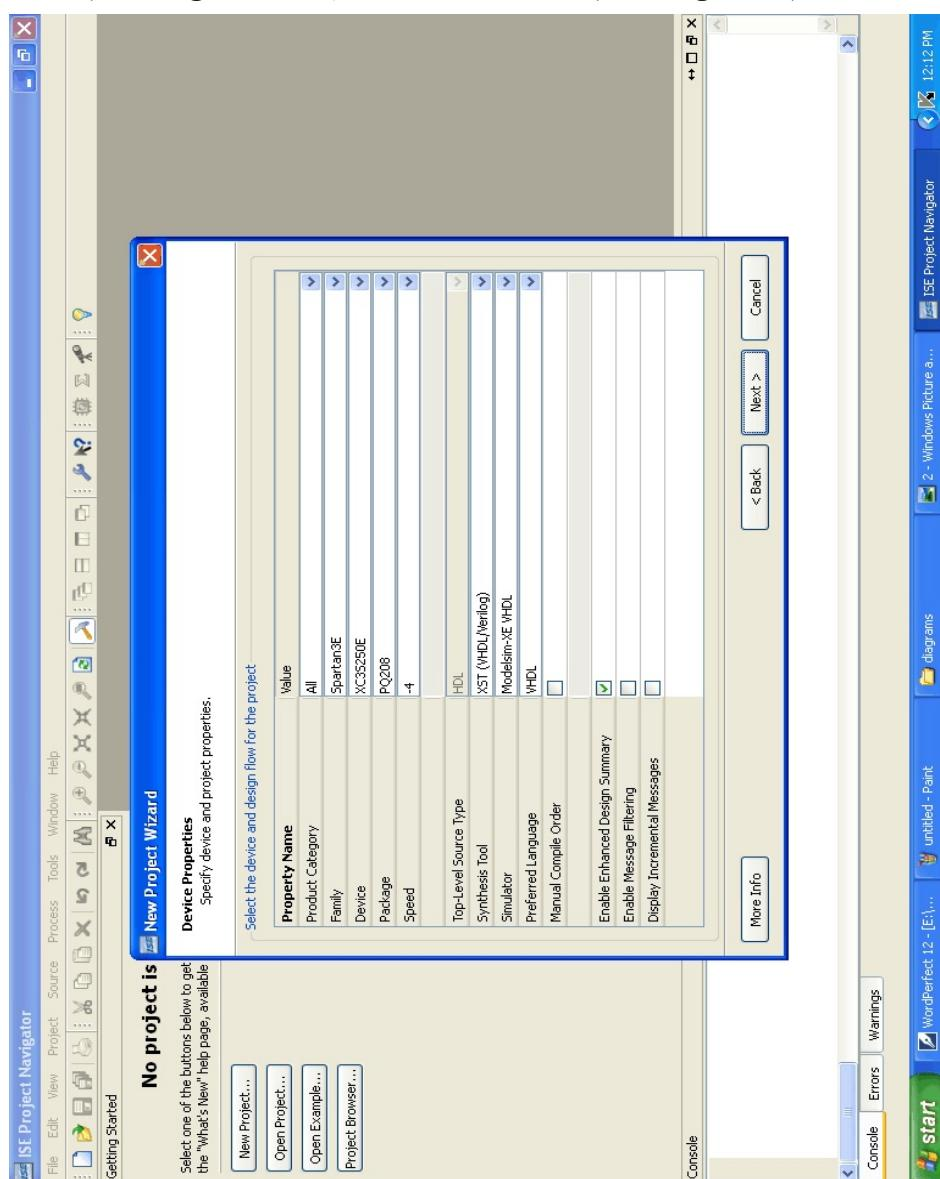
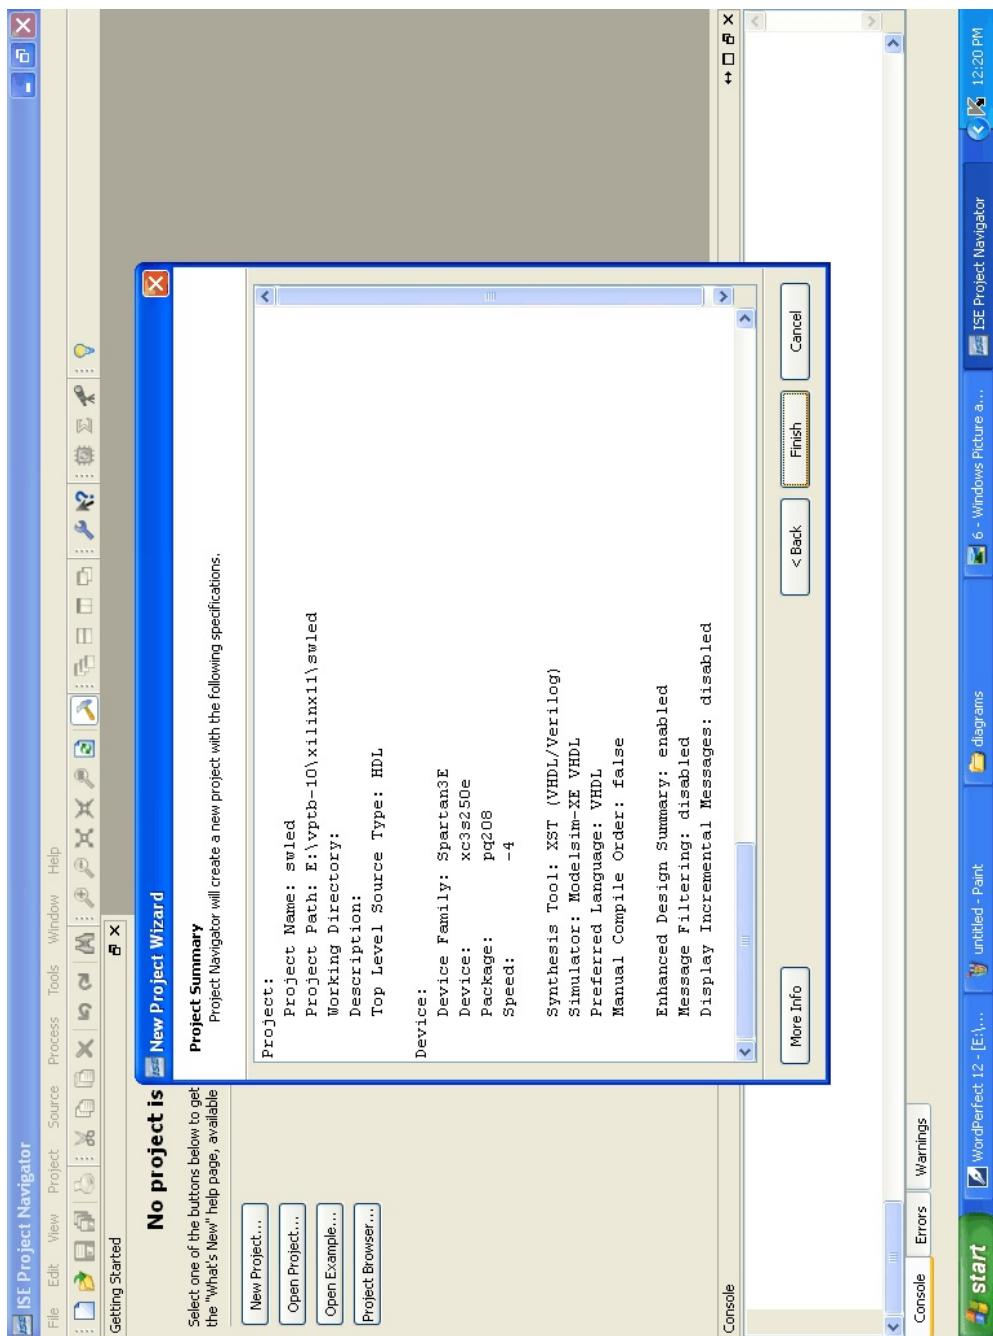

Figure-6
Figure-9
3. A window given in **Figure-6** will appear.
Then click "Next" (refer **Figure- 6,7,8**) and then "Finish" (refer **Figure- 9**).